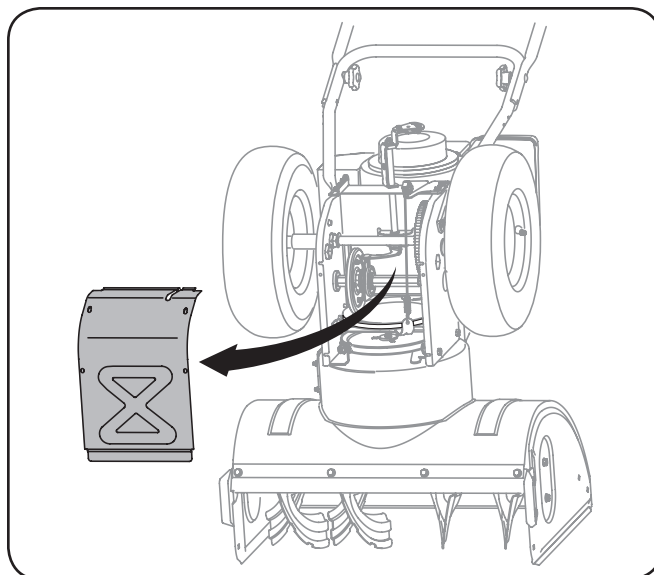

Figure 7-3
3. Remove the frame cover from the underside of the snow thrower by removing the self-tapping screws which secure it. Refer to Figure 7-3 in the Service section.
5. Remove the frame cover from the underside of the snow thrower by removing the self-tapping screws which secure it. See Figure 7-3.
5. Remove the frame cover from the underside of the snow thrower by removing the self-tapping screws which secure it. Refer to Figure 7-3.